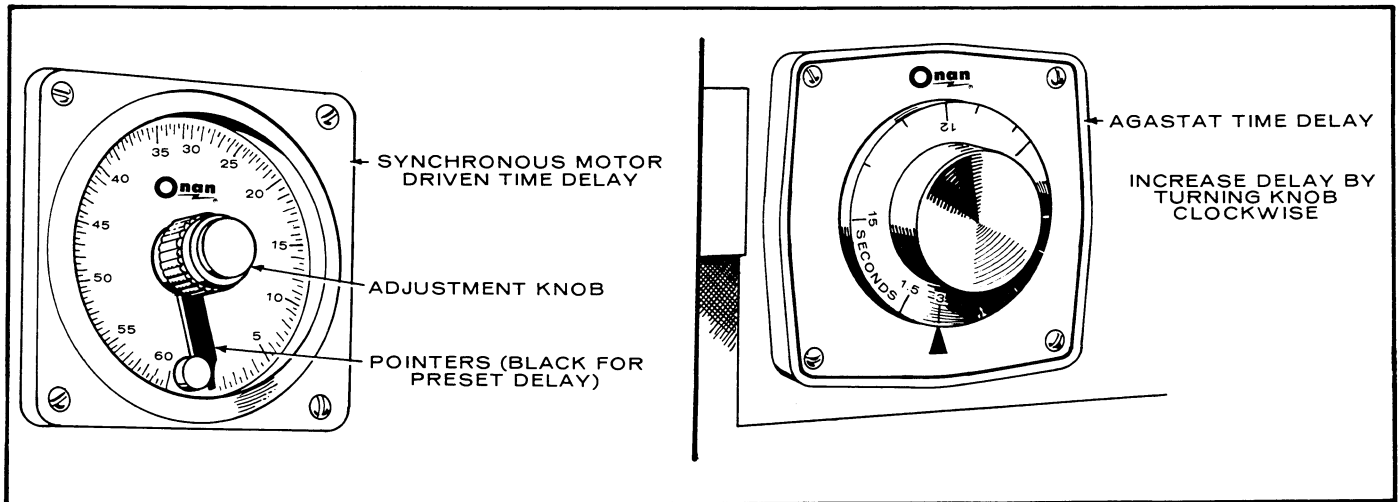

FIGURE 15. ADJUSTABLE TIME DELAYS
2. The Agastat delay relay shown in Figure 15 is adjustable. Three currently used Agastat relays are adjustable for unit starting, one from 1.5 to 15 seconds, one from 1 second to 5 minutes, and one from 5 to 50 seconds for diesel generating sets (heating of glow plugs). Another Agastat relay
3. The synchronous motor-driven time delay relay (Figure 15) is adjustable from 2 to 60 minutes, for stopping generating set or retransfer of load to line after the normal power source returns.